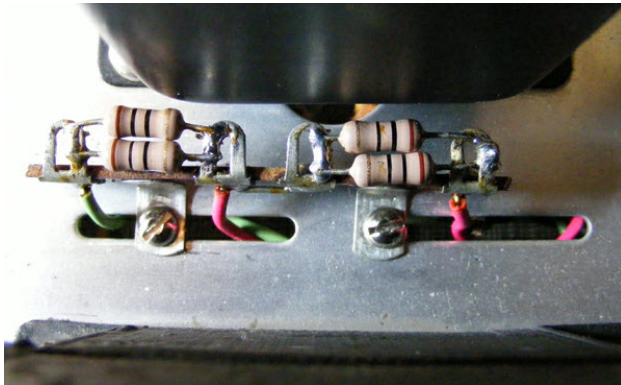

Figure-8. Pairs of parallel 10 ohm values form the cathode resistors. They are mounted in this slot on top of the chassis.
6. The 5.0 ohm 1W cathode resistors actually consist of two parallel connected, hand picked, 10 ohm $\frac{1}{2}$ W resistors in each channel to obtain the desired value and rating. In Figure-8, these can be seen mounted on a four lug terminal strip on top of the chassis, between the power transformer and front output transformer. The terminal strip mounting and wiring access to it is provided by the cooling slots that already exist in the chassis. A three lug strip is all that's required, but a four lug strip is what populated my "box o' stuff".